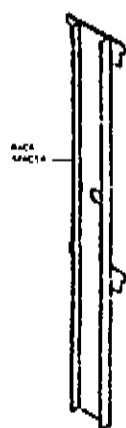

FIGURE 27
1. Install backspacer (See Figure 27) in maximum rear position.